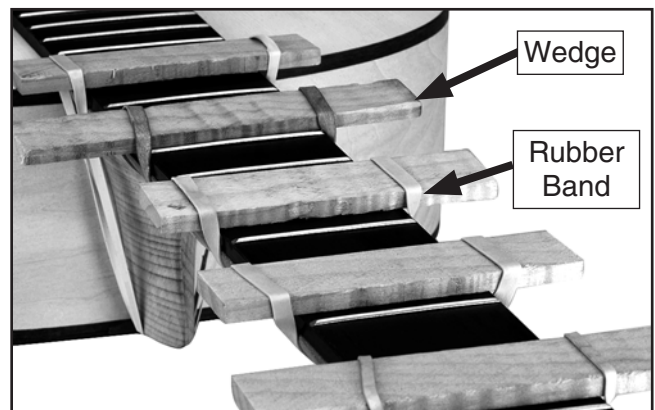

Figure 7. Attaching fingerboard to the neck.
3. Secure the fingerboard in place with rubber bands and wedges, as shown in **Figure 7**. Let the glue dry for at least 24 hours.